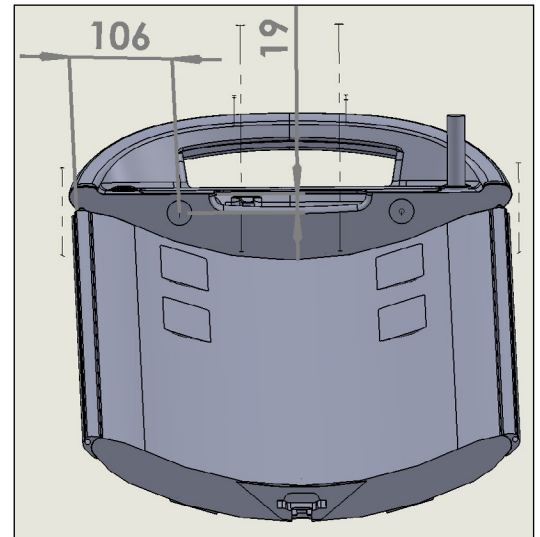

Fig. 46
1. Install P/N 3002136. Place a pencil mark on the rear cover 19 mm down from the top edge and 106 mm from the left edge as shown in the picture. Place another mark 19 mm down from the top edge and 106 mm from the right edge. Remove backing from adhesive and adhere to rear cover centered over the marks (Fig. 46).